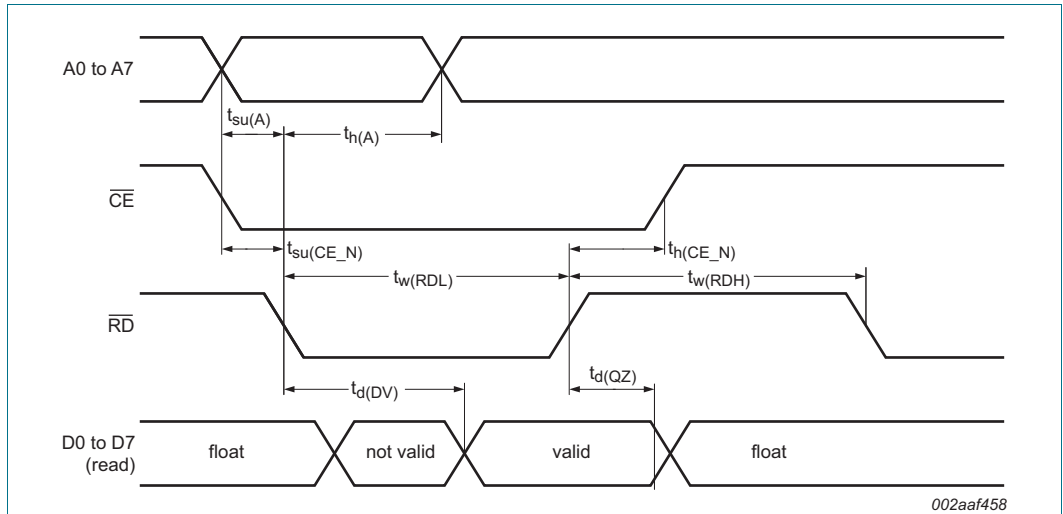

Fig 23. Bus timing (read cycle)
Bus timing (see Figure 23 and Figure 25)
- [2] All voltage measurements are referenced to ground ( $V_{SS}$ ). For testing, all inputs swing between 0 V and 3.0 V with a transition time of 5 ns maximum. All time measurements are referenced at input voltages of 1.5 V and output voltages shown in Figure 23 and Figure 25.